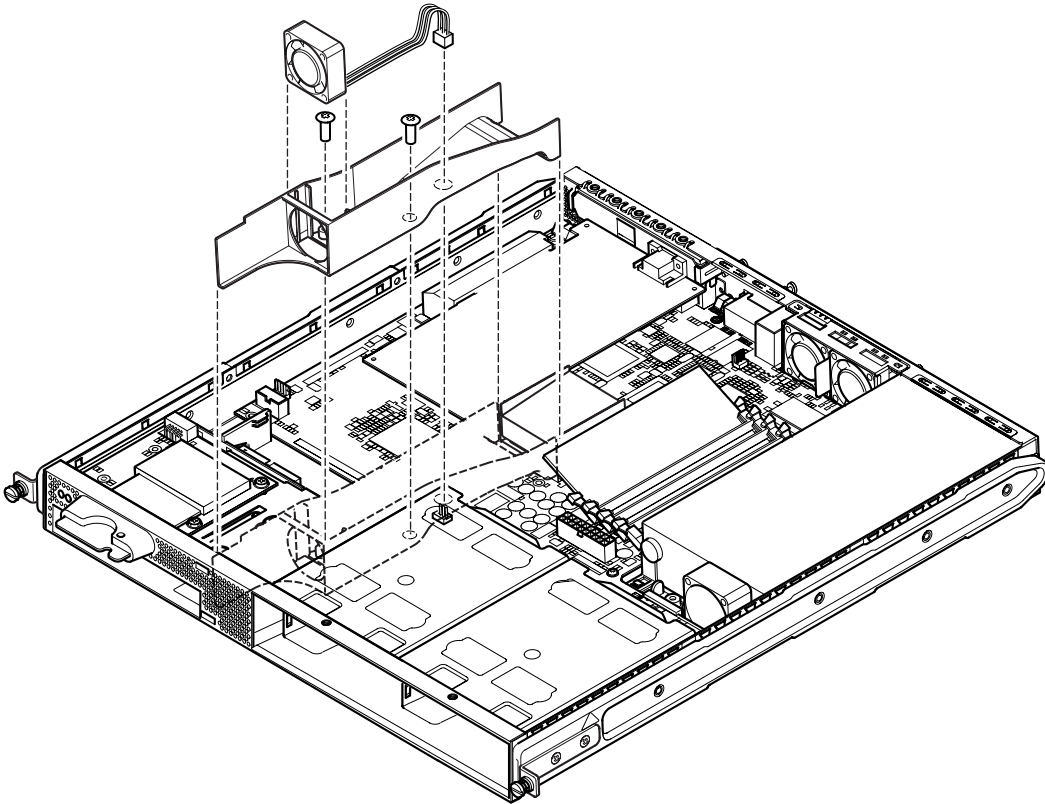

FIGURE 11-8 Replacing the Fan 3 Assembly
10. Replace the Fan 3 assembly by screwing the ducting back into the chassis and connecting the fan's power cable into the connector on the new system board (see FIGURE 11-8).